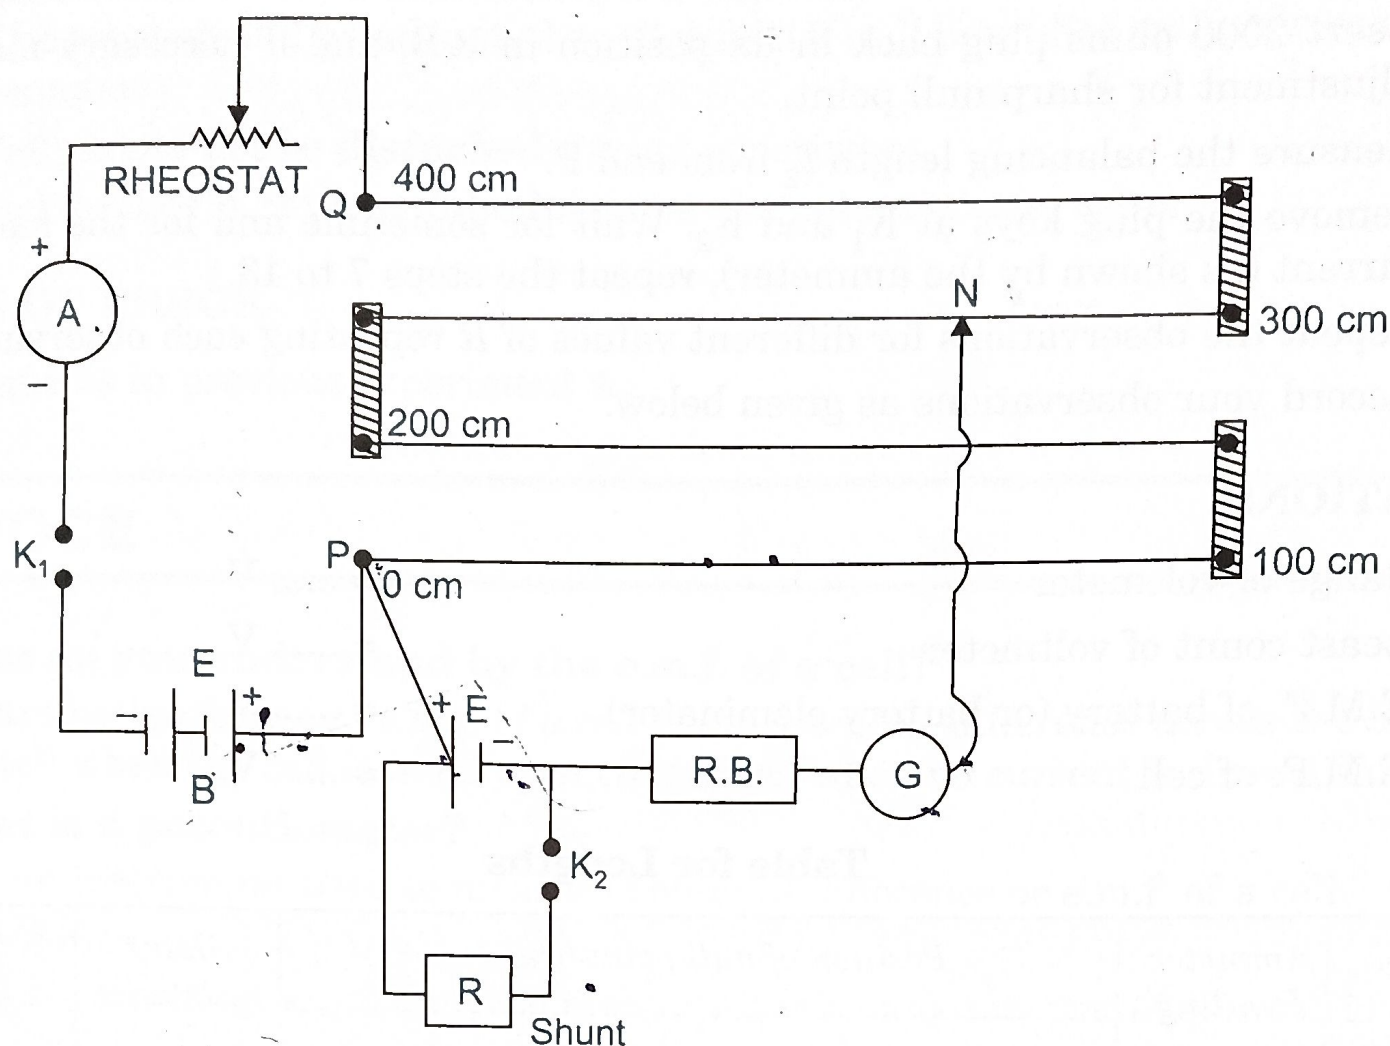

Fig. 4.03. Internal resistance of a cell.
Refer to Fig. 4.03 given on next page.
1. Draw the circuit diagram showing the scheme of connections as in Fig. 4.03.